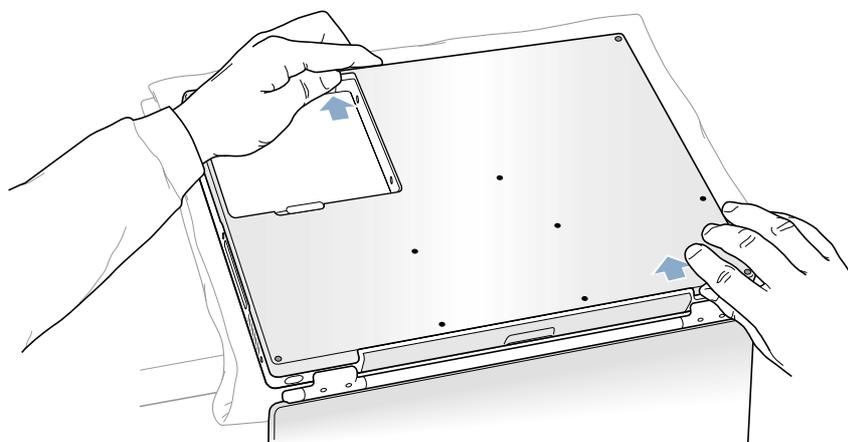

Figure 5
9. Place your hands on the bottom case as shown (**Figure 5**) and push away from you until the right side releases.